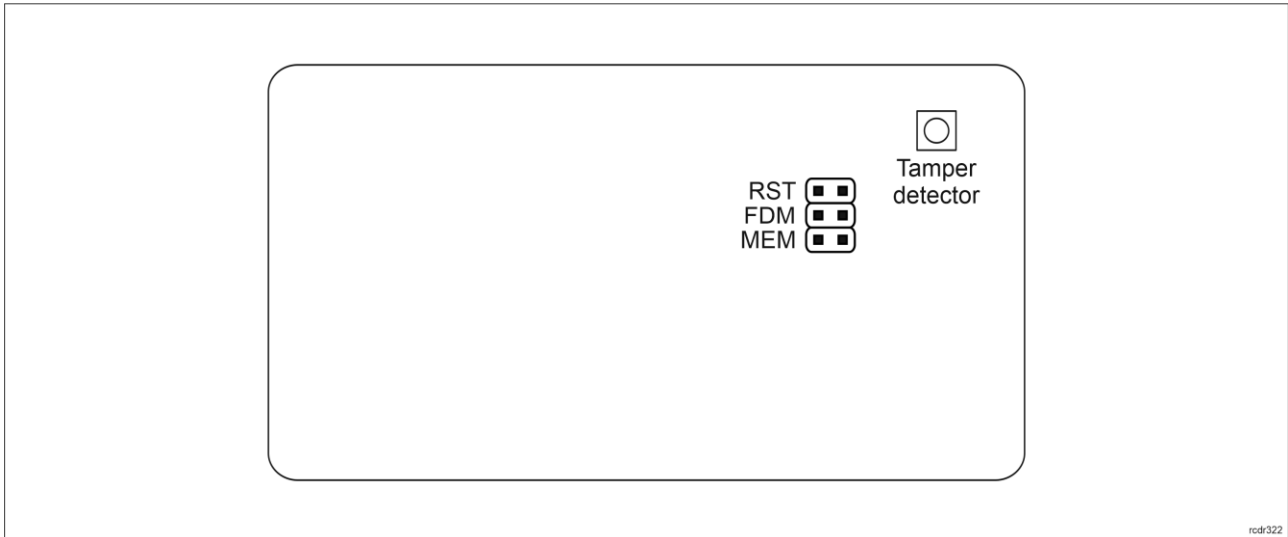

Fig. 5 Programming jumpers
Built-in tamper (sabotage) detector enables detection of unauthorized opening of device's enclosure as well as detachment of the enclosure from wall. The detector is internally connected to the terminal's input. It does not require low level configuration (RogerVDM) or any additional installation arrangements but it is essential to mount front panel in such way as the tamper detector (fig. 5) would firmly press the back panel. The detector requires high level configuration which consists in assignment of the function [133] *Tamper Toggle* on the level of a *Main Board* of a controller in VISO software navigation tree.
- Front panel should be attached in such way as the tamper detector (fig. 5) would firmly press the back panel.
2. Place jumper on MEM contacts (fig. 5).